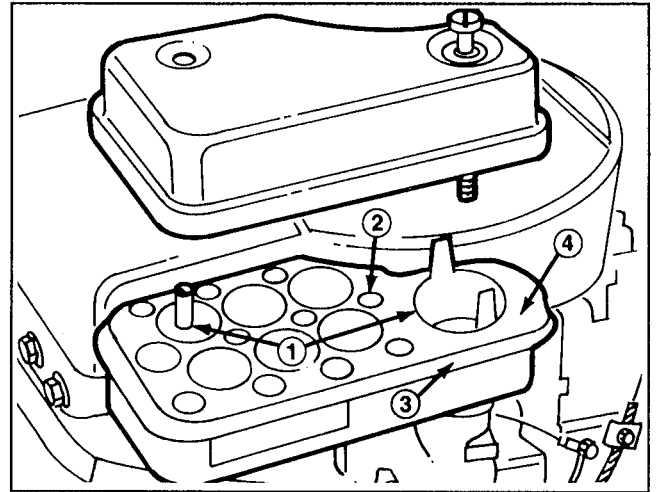

Figure 19
3. Remove cover and screen from foam element, remove spacers from element and element from body (Fig. 19). Examine element for dirt or discoloration and clean if necessary.